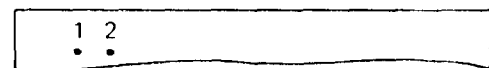
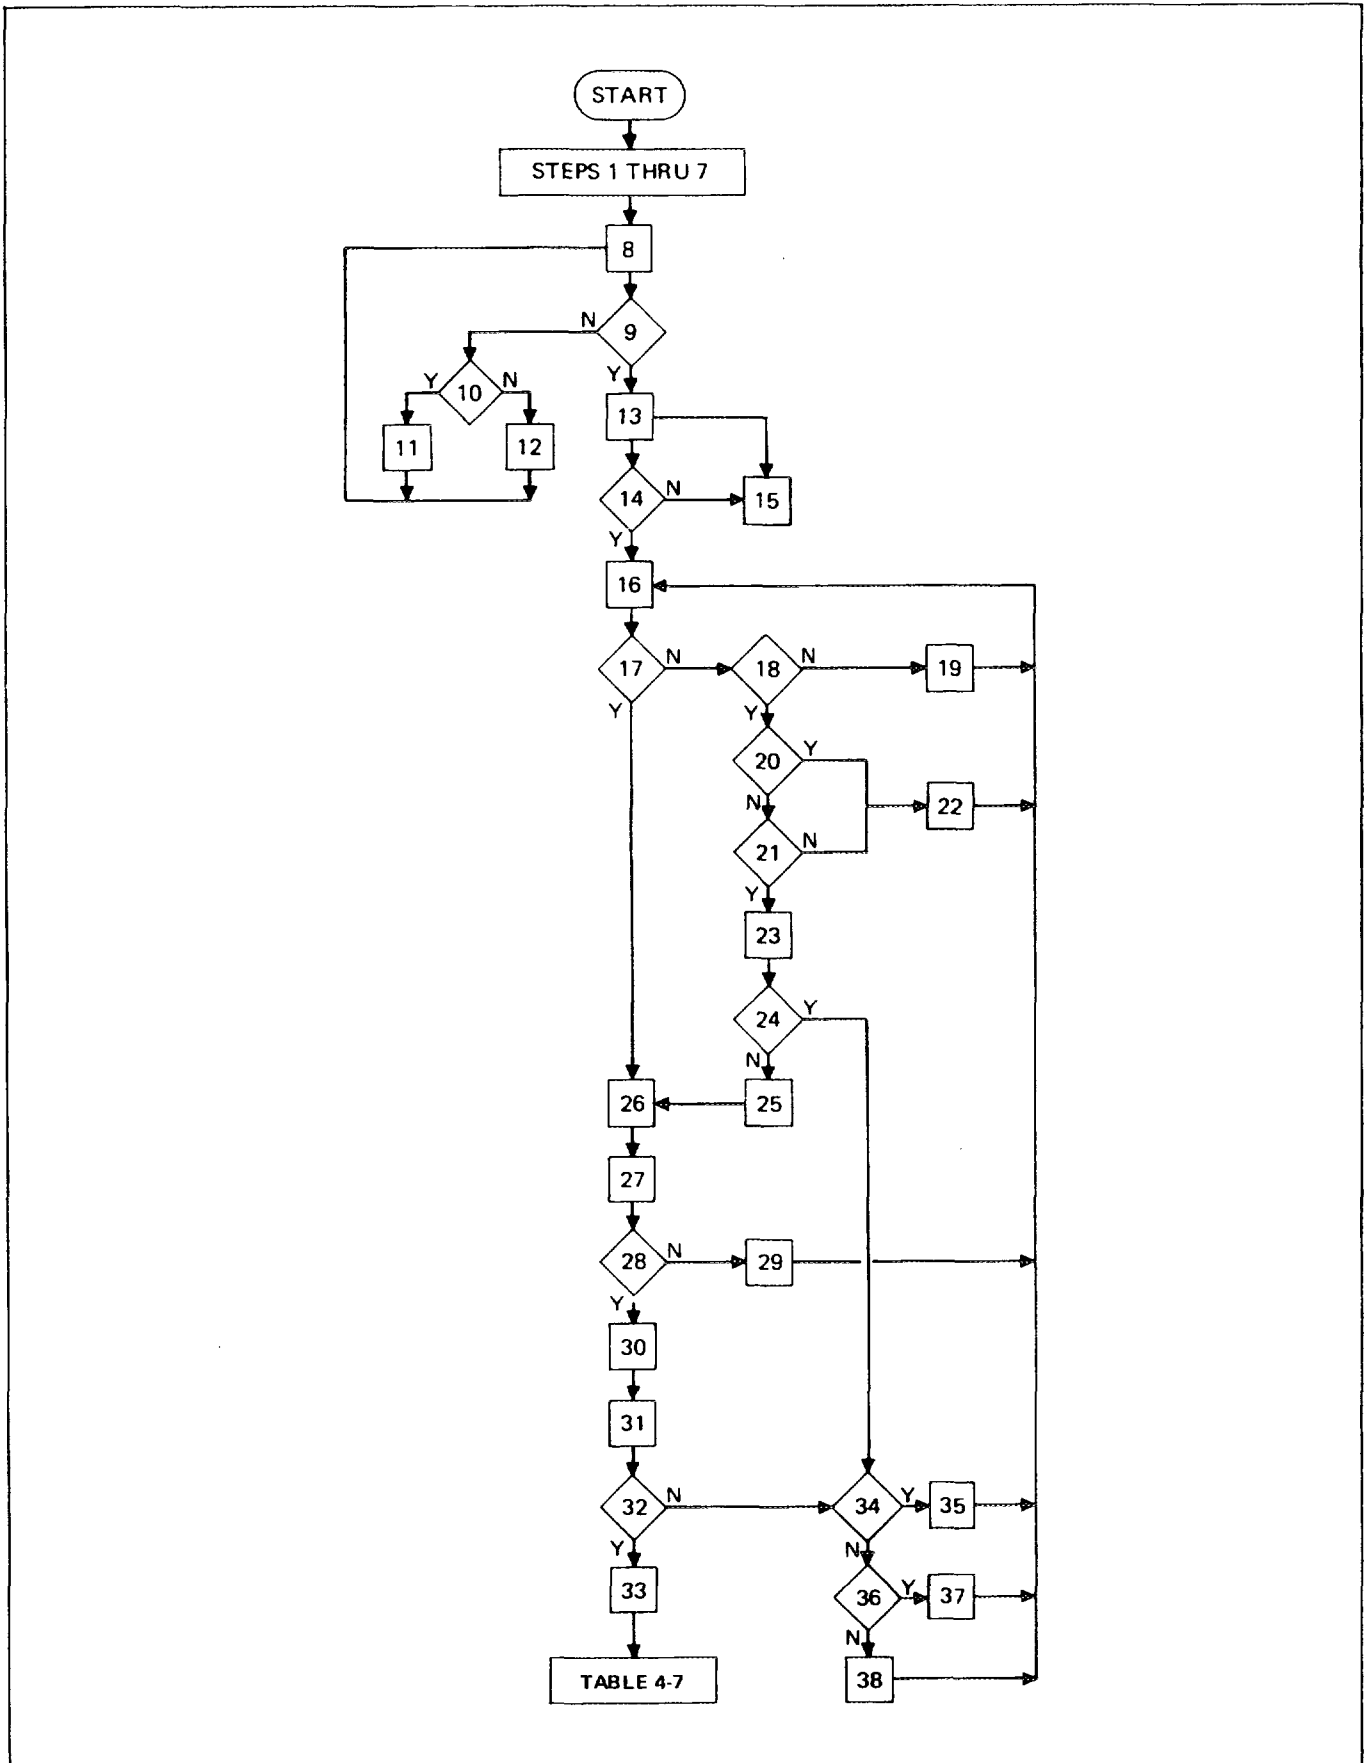

Figure 4-3. Test Point Location/Identification
Figure4-4. Flowchart Summary of Mainframe and Digital Section Troubleshooting Guide (Table 4-6)
4-87. Troubleshooting information is presented in a series of interrelated figures and tables. Figure 4-3, identifies the available pcb test points and their location. Figures 4-4 and 4-5, give a flowchart summary of the actual procedures contained in Tables 4-6 and 4-7.
2. All measurements using external test equipment are made at test points on the various pcb assemblies. See Figure 4-3 for test point location identification.